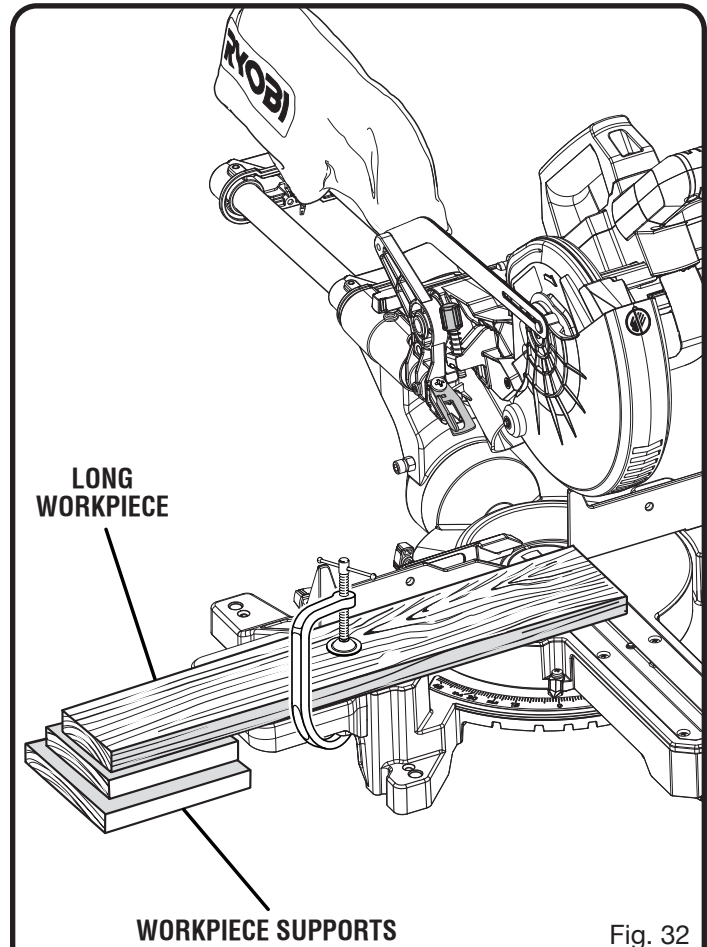

Fig. 32
- When cutting long pieces of lumber or molding, support the opposite end of the stock with a roller stand or with a work surface level with the saw table. See Figure 32.
See Figure 32.